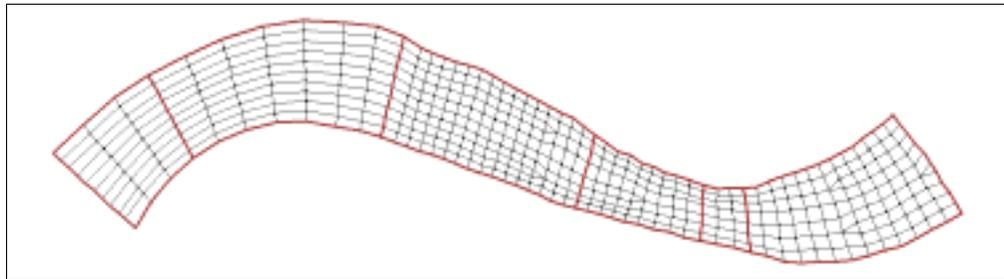

Figure 3-22 The mesh with all patches created.
2. Using these nodestrings, create the other three patches. The final mesh is shown in Figure 3-22 (the thick lines are the nodestrings).